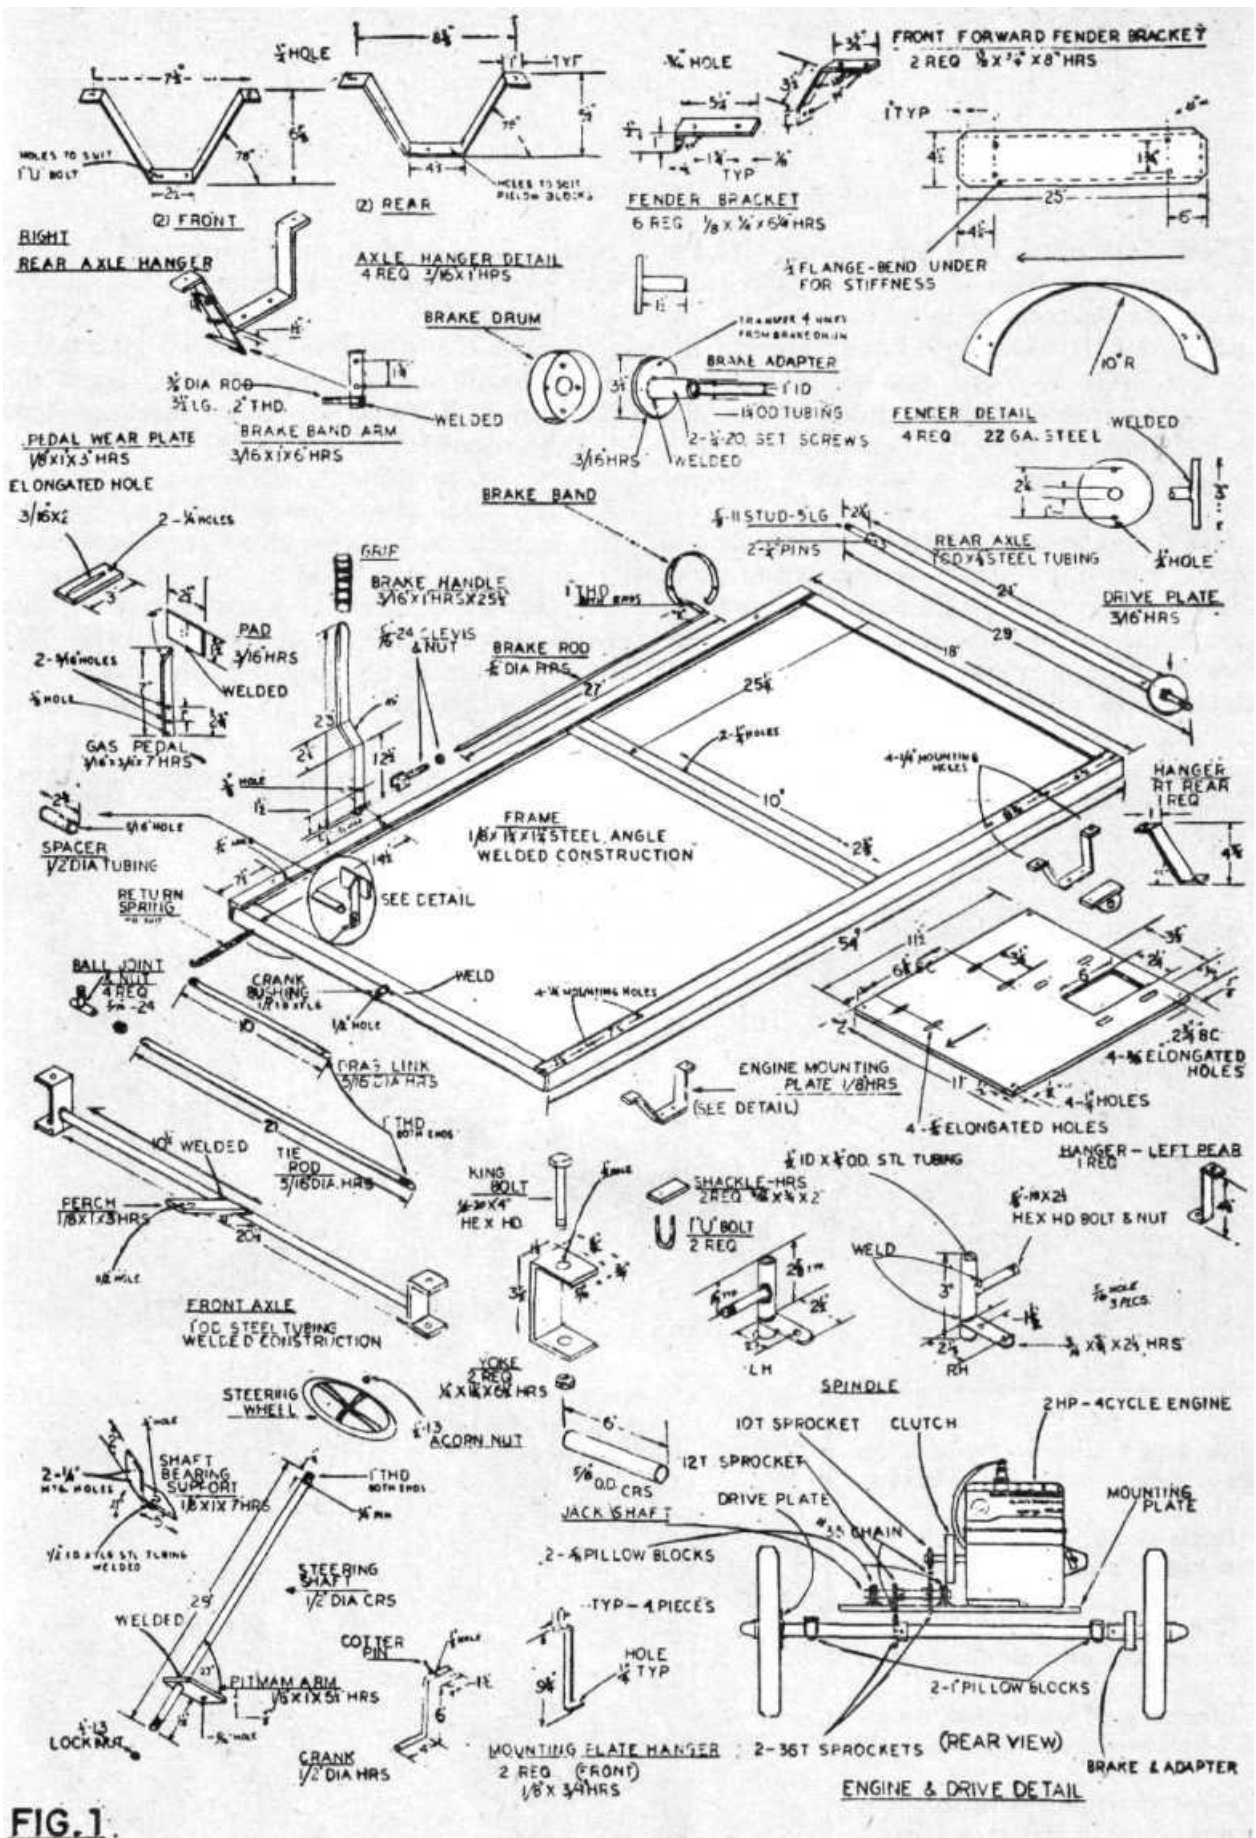

FIG. 1.
Frame. Construction begins with the frame (Fig. 1). While ordering the steel angle for the frame, have *all* the other steel cut that will be required for the truck.
The four axle hangers (Fig. 1) are made of hot-rolled steel stock that can be bent cold in a vise. The rear hangers are shorter in height than the front hangers to compensate for the pillow blocks. Mount the hangers to the frame with 1/4-inch roundhead stove bolts.
Machine the drive plate (Fig. 1) from a
Now proceed with the following sequence on the rear axle (Fig. 1): (1) slip a locking collar and then a 1-inch pillow block onto the axle and slide it toward the drive plate; (2) slip on the 36-tooth sprocket (1-inch bore); (3) slip on the other 1-inch pillow block and locking collar; and (4) slide the brake drum assembly onto the axle with the adapter tubing pointing toward the center of the axle.
Brake assembly. Make the brake band arm (Fig. 1) and mount it to the right rear
axle hanger. Thread the ends of the brake rod, then put a 2-inch-long, 90° bend in one end. The brake handle is a piece of 3/16-inch hot-rolled steel bent to shape in a vise. Place the brake band (Fig. 1 & Photo G) over the outside diameter of the brake drum, slipping the top loop hole of the band over the brake arm stud, and secure it with a nut. Slip the 90° bent end of the brake rod through the bottom loop hole of the brake band and secure it with a nut, then attach the clevis to the other end of the brake rod. With the brake handle attached to the frame, position the brake drum and snug it up with bolt and nut to assure firm action. Tighten the two set screws in the brake adapter on the axle.
Engine mounting plate assembly. The engine mounting (Fig. 1 & Photo E) is made of 1/8-inch hot-rolled steel plate. Make the cutout for the jack-shaft sprockets (the elongated holes) and drill the four 1/4-inch corner hanger-mounting holes. Bend the four strap hangers in a vise. The two front hangers are both 9-3/4 inches long; the two rear hangers are 4-3/8 inches long. The rear hangers mount to the underside of the axle hangers in the forward hole of the pillow-block mounting holes. The two front hangers mount to the steel-angle frame cross member.
The jack shaft (Fig. 1) is a piece of 5/8-inch-diameter cold-rolled steel cut to a 6-inch length. Mount the 36-tooth sprocket (5/8-inch bore) and the 12-tooth sprocket (Photo F) on the jack shaft, then slip the two 5/8-inch pillow blocks on the ends of the shaft with the locking collars outward. Mount this assembly to the engine plate in the elongated holes, snugging up the bolts.
1/4-inch pin hole near the top of the shaft as indicated in Fig. 1. Later a pin is inserted here which prevents the wheel spinning on the shaft. Drill the 1/2-inch hole and the 5/16-inch hole in the pitman arm, then weld the pitman arm to the steering shaft as shown. Mount the steering shaft through the 1/2-inch hole in the axle perch and secure it with a lock nut. Attach the drag link (Photo C) to the 5/16-inch hole in the pitman arm.
Make the pedal wear plate (Fig. 1) of hot-rolled steel. After elongating the 1/2-inch hole in it, mount it over the elongated hole in the floorboard.